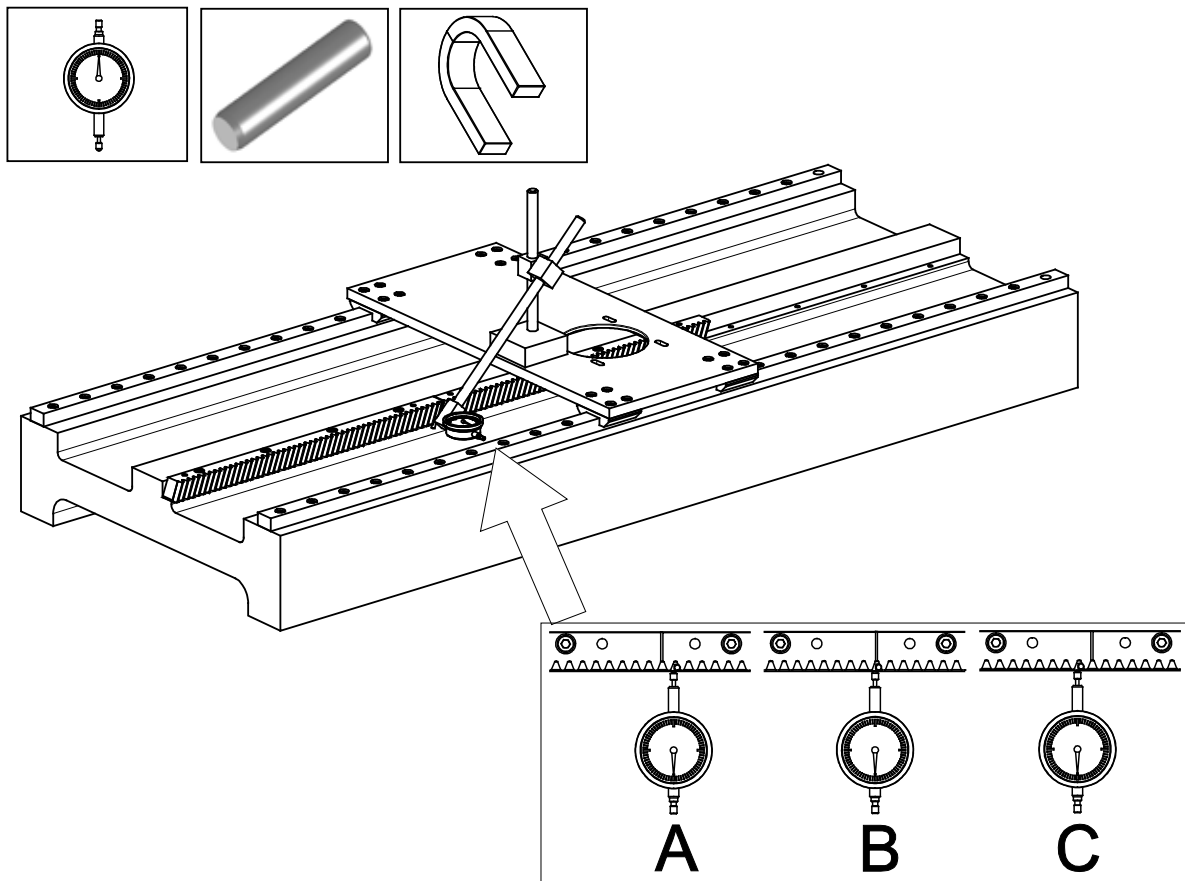

Fig. 6.10
- Ü Place the needle roller in the butt joint (B) and in the gearing to the left (A) and right (C) of that (see Fig. 6.10) and measure the respective height deviation.
- Ñ The permitted height deviation from toothed rack to toothed rack may be about 30 µm. The butt joint (B) should lie between highest and lowest measure (A and C) of the toothed racks.